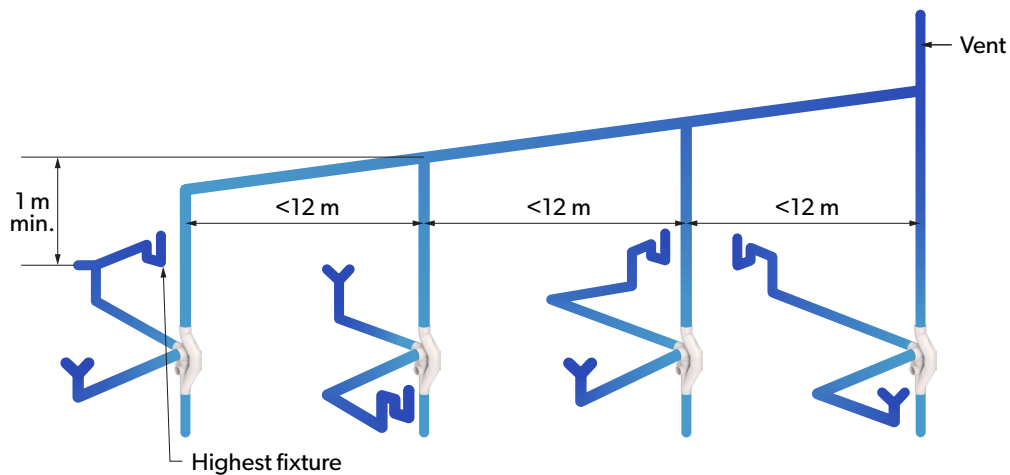

Figure 1 - Manifolding of stack vents
- 2.2** Interconnection of stack vents may occur 1m min above the highest flood rim level of the highest fixture for termination above roof level at a common point by increasing the size of the vent by one DN pipe size downstream of each the interconnection Junction (see figure 1).
- 2.4** Stack vents may offset above the highest fixture but must be increased by 1 DN pipe size when the horizontal exceeds 12m (see figure 1).